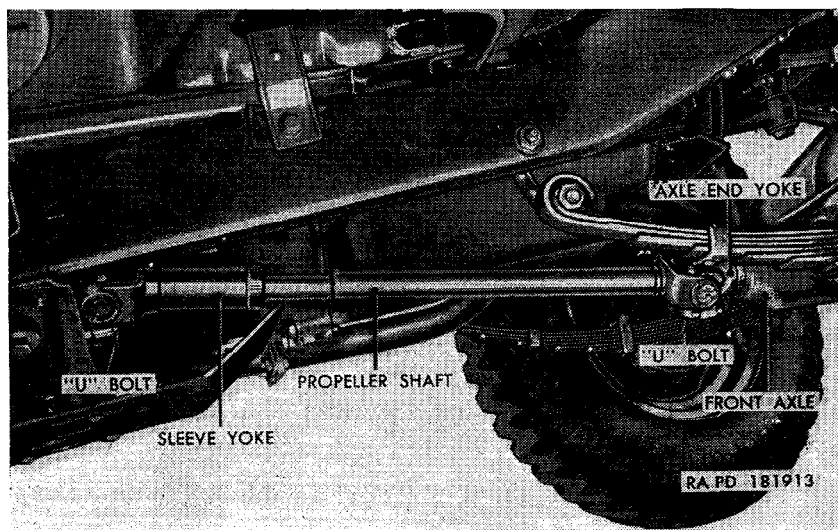
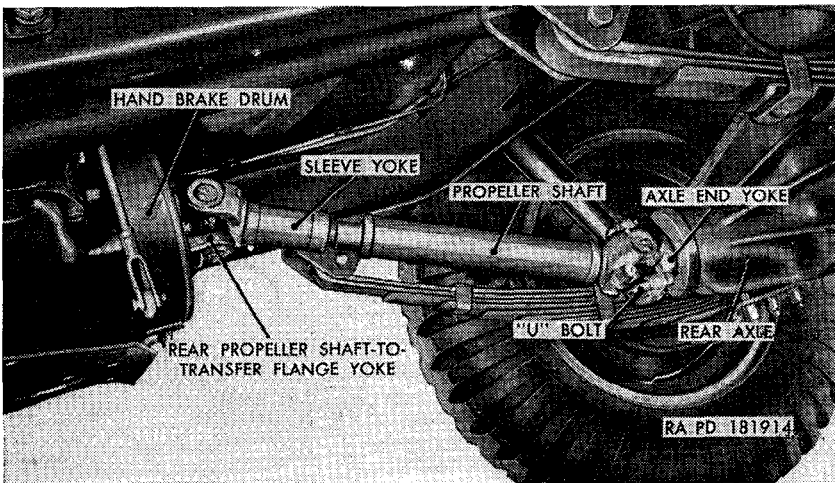
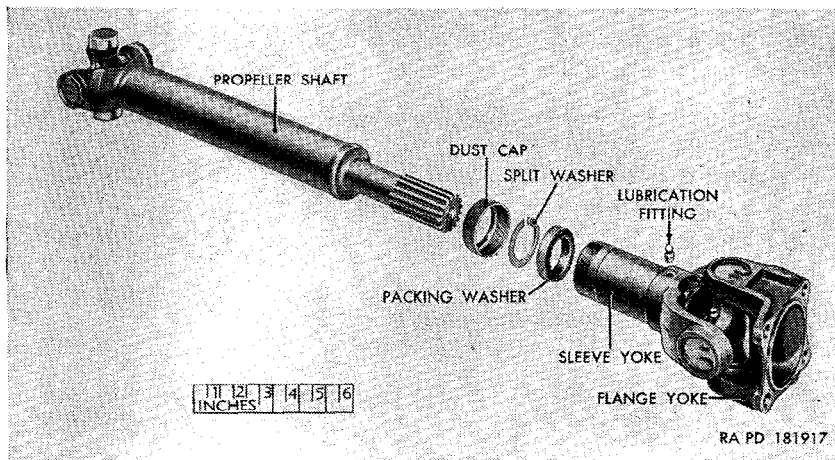

Figure 129. Front propeller shaft with universal joint assembly—installed.
Figure 130. Rear propeller shaft with universal joints—installed.
Figure 133. Rear propeller shaft with universal joints—partially exploded view.
a. *Description.* The front propeller shaft (fig. 129) with universal joints transmits power from the transfer to the front axle. The rear propeller shaft (fig. 130) with universal joints transmits power from the transfer to the rear axle. Each assembly includes a propeller shaft, a universal joint sleeve yoke, and two universal joints. Corresponding parts of the front and rear assemblies are similar except for the length of the shaft, and the front universal joints of the rear propeller shaft. This universal joint includes the propeller shaft flange yoke, and is modified accordingly.
(fig. 129)
(fig. 130)
*a. General.* The universal joint sleeve yoke assemblies (figs. 129 and 130) used on the front and rear propeller shafts are practically identical. Removal and installation procedures for both are referenced to figure 133.
*b. Universal Joint Sleeve Yoke Removed* (fig. 133).
- (1) Remove the propeller shaft with universal joints (par. 202*a* or 203*a*).
- (2) Unscrew the dust cap from the sleeve yoke and slide the yoke with universal joint off the splined shaft. Remove the packing washer and the split washer from the dust cap. Work the two washers and cap off the shaft over the splines. Unscrew and remove the lubrication fitting.
- (3) Follow the procedure described in paragraph 204*a*(3).
*c. Universal Joint Sleeve Yoke Installation (fig. 133).*
- (1) Follow the procedure described in paragraph 204*b*(1) and (2).
- (2) Slide universal joint sleeve yoke dust cap over splines on the propeller shaft, convex side first. Slide universal joint sleeve yoke dust cap split washer over splines, and install in dust cap. Slide universal joint sleeve yoke dust cap packing washer over splines and install in cap. Slide the universal joint sleeve yoke with universal joint assembly onto the propeller shaft splined end. Screw the universal joint sleeve yoke dust cap, with the two washers inclosed, onto the yoke end. Insert the lubrication fitting into the yoke hole and tighten the fitting.
- (3) Install the propeller shaft with universal joints (par 202*b* or 203*b*).